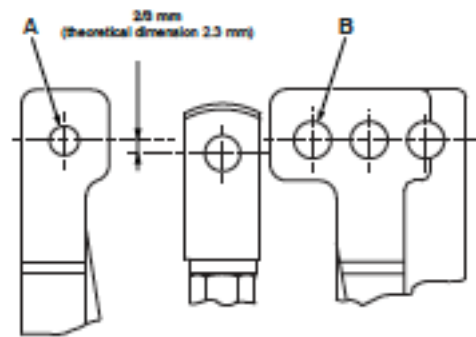

Figure 15 - Presetting the plug stem position
4.2.1 Adjusting the plug stem on the VariPak 28001 single-lever valve (Figures 15, 16 and 26)
- A. Loosen nut (103) and turn the plug stem using a screwdriver while blocking clevis (104a) until the clevis is in the position shown in figure 15. Lock nut (103).
- 2.3 mm below the alignment of the pin holes in the actuator bracket (108) for the VariPak 28001 single-lever valve (see figure 15).